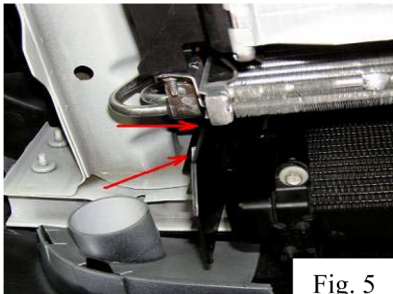

Fig. 5
- 17) Remove the 4 nuts that secure the heat exchanger mount to the vehicle's frame (Fig. 5).